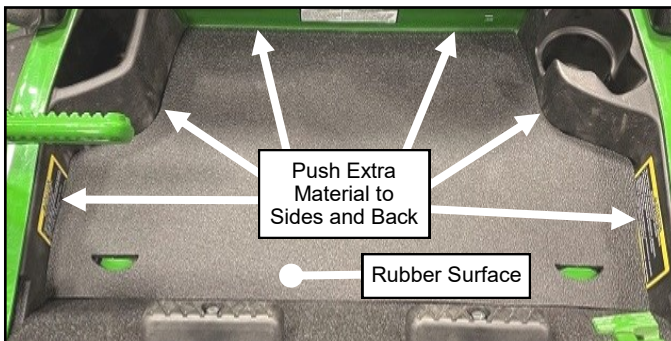

Fig. 1.25 (Install Footrest Floormat)
1.25 Install the footrest floormat making sure the rubber is on the top surface (foam on bottom). Push the extra material into the back edge and sides to fully seal the floorboard. See Fig. 1.25.